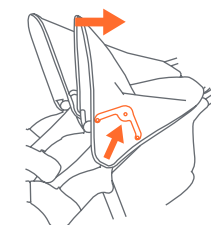

Fig. 8b
- **To fold the canopy:** pull upwards on the tensioners and then pull backwards on the front edge (Fig. 8b).